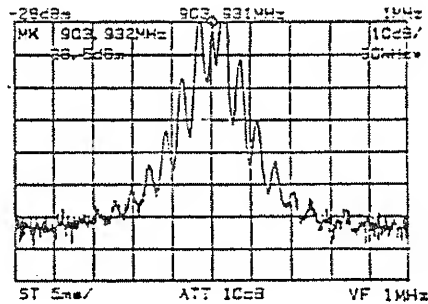

Figure 5-11 Measurement of FM Wave When Modulation Frequency Is Low
- ② Set the carrier of the signal so that it becomes the center frequency, and make it the span suitable for analyzing the spectrum.
- ③ Set the marker to the peak of the signal.
- ④ Set the marker level to the reference level.
- ⑤ Lower the reference level (Figure 5-11).